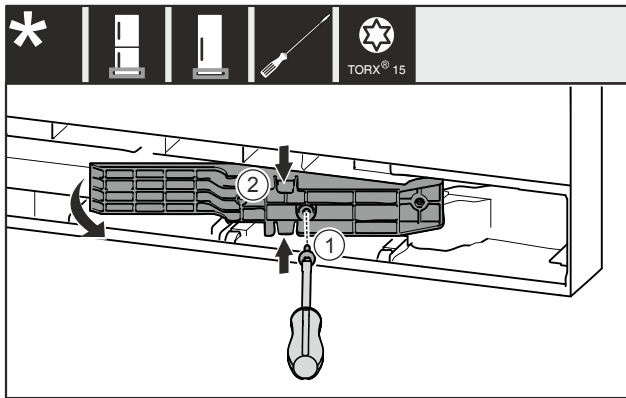

Fig. 20 \*
- Remove the screw Fig. 20 (1)\*
- Gently press the adapter piece Fig. 20 (2) together at the top and bottom and pull it out.\*